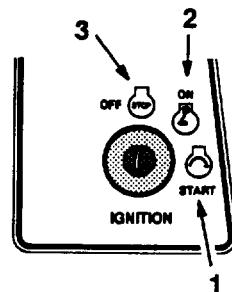

Figure 10
6. Turn the ignition key clockwise and hold it in the "START" position (Fig. 10). When the engine starts, release the key.
2. Turn the ignition key to "OFF" (Fig. 10).